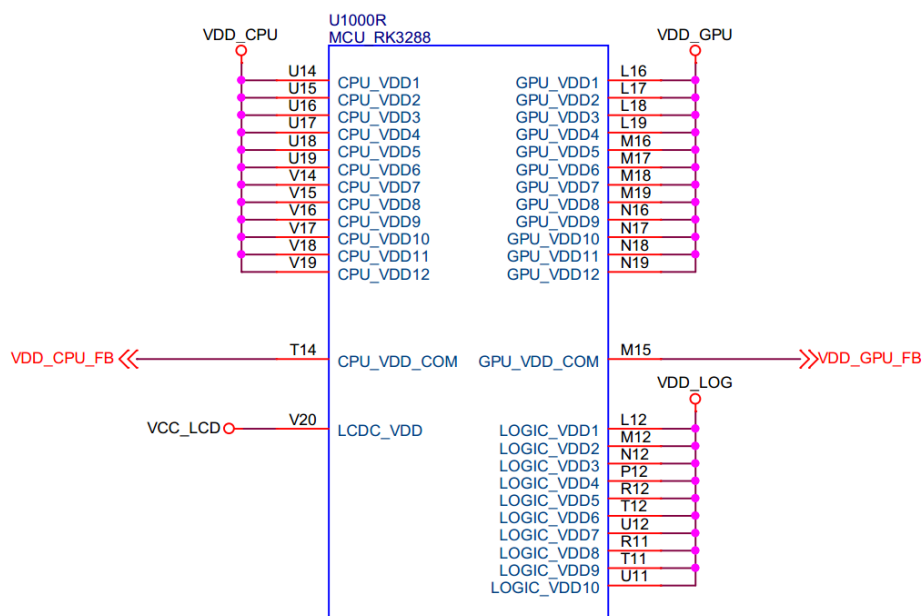

Figure 14-9
- Please ensure LCDC_VDD power supply work normally when designing, otherwise, the display would abnormal, shown as Pin V20 in the Figure 14-9.